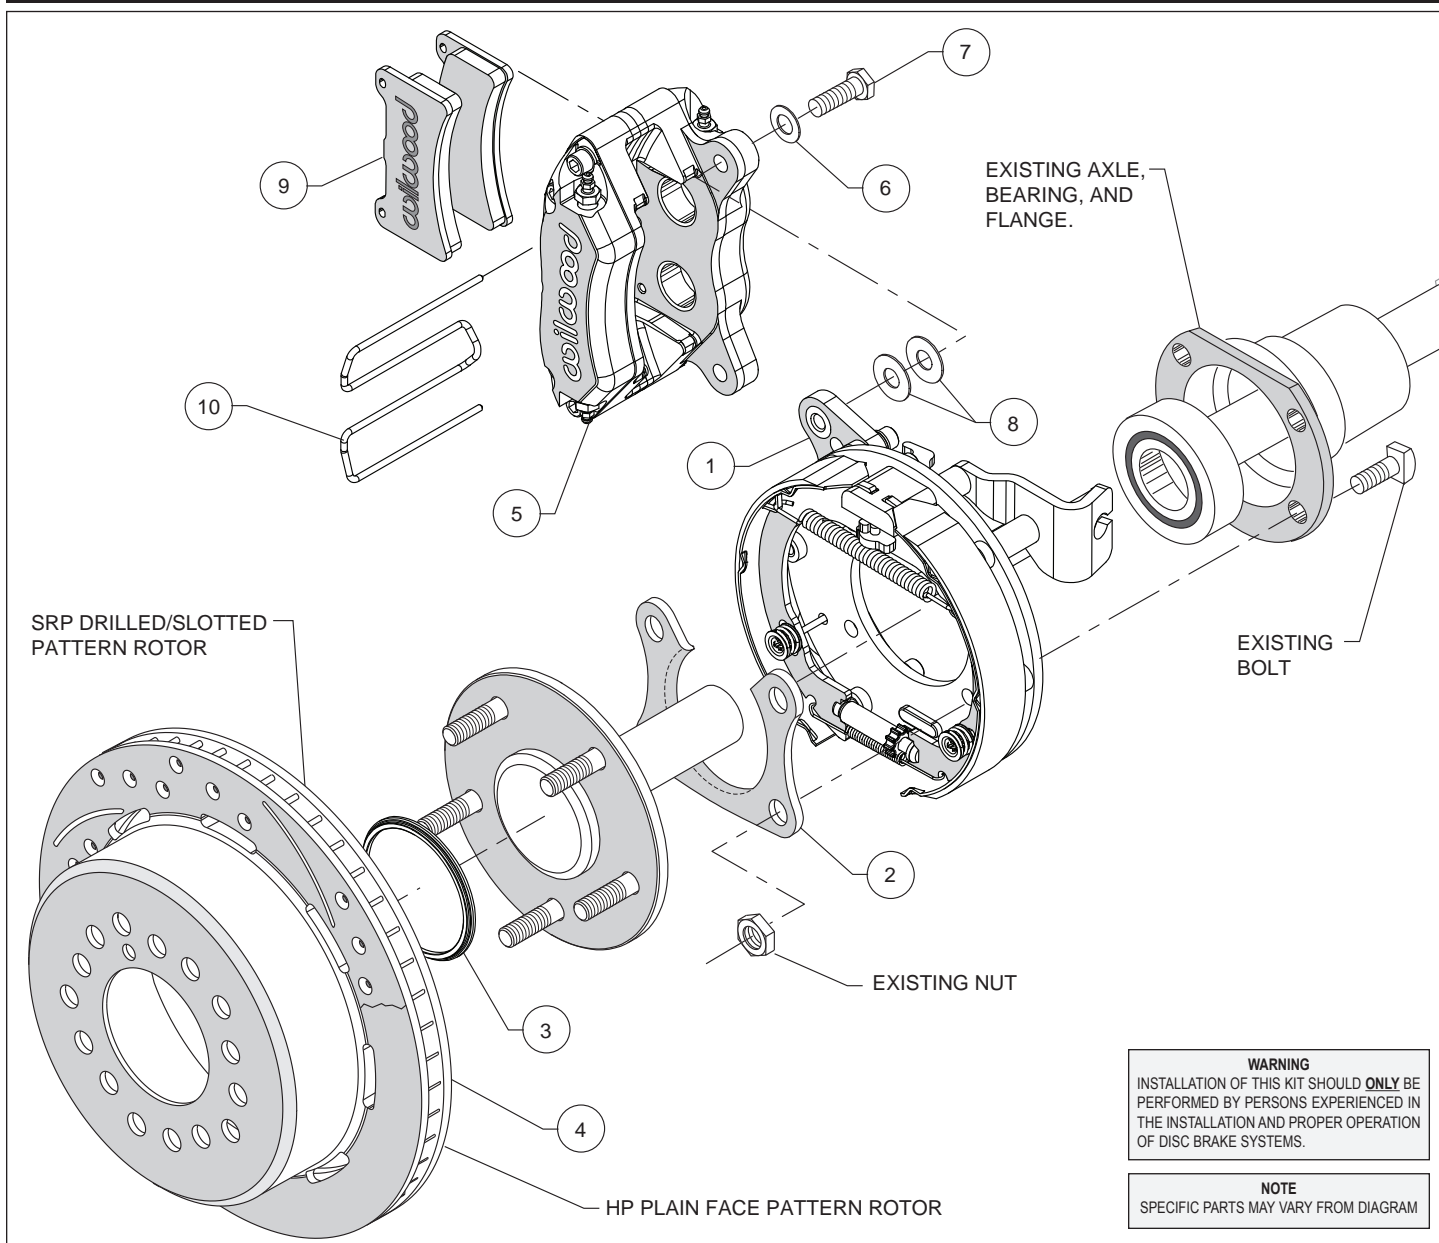
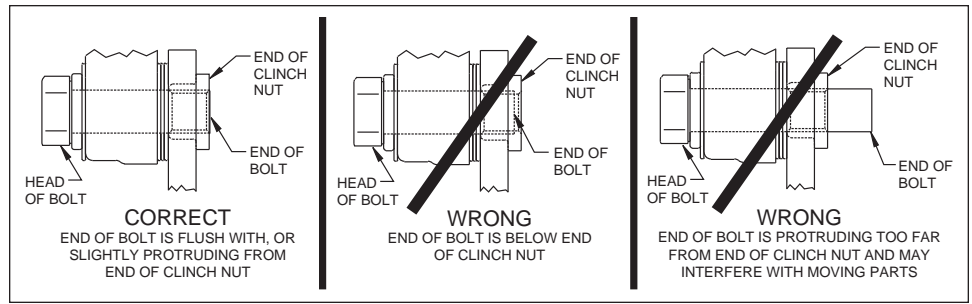

Figure 1. Typical Installation Configuration
Figure 5. Clinch Nut Engagement Diagram
Assembly Instructions (numbers in parenthesis refer to the parts list, and Figure 1 on the preceding pages): **CAUTION:** All mounting bolts must fully engage clinch nuts. Be sure to check that all bolts are either flush or protruding through flanged side of clinch nut after shimming, Figure 5.
- Orient the bracket assembly (1) as shown in Figure 1 and Photo 1 and slide it onto the axle. Insert the axle and bracket into the axle housing. Ensure that the bracket assembly backing plate fits flush against the axle housing flange.
- Install the bearing retainer (2) with the opening pointing upward and the lip facing inward (toward the bearing), as shown in Figures 1 and 4, and Photo 2. Secure retainer and bracket assembly to the axle housing flange using the Original Equipment Manufacturer (OEM) bolts and nuts, Figure 1. Apply red *Loctite*® 271 to the OEM bolt threads and torque to OEM specifications.
•Slide the rotor registration adapter (3) onto the axle register on the axle flange with the smaller O.D. facing toward the rotor/hat (4), Photo 3. Align the correct hole pattern in the rotor/hat with the stud pattern on the axle flange and slide into place, Figure 1 and Photo 4. **NOTE:** The rotor/hat must fit flush against the axle flange or excessive rotor run out may result. Install three lug nuts (finger tight) to keep the rotor/hat assembly in place while continuing with the installation. **NOTE:** Some OEM and after market axles come with stud sizes larger than 0.50" diameter. Verify stud size and have a qualified machine shop drill the bolt circle of the hat/rotor to the correct stud size, if necessary.
•**NOTE:** Please reference the caution statement at the beginning of the assembly instructions. Mount the caliper (5) onto the caliper mounting bracket (1) using bolts (7) and washers (6), as shown in Figure 1. Initially place two .035" thick shims (8) on each bolt between the caliper and the bracket, Photo 5. Temporarily tighten the mounting bolts and view the rotor (4) through the top opening of the caliper. The rotor should be centered in the caliper, Photo 6. If not, adjust by adding or subtracting shims between the bracket and the caliper. Always use the same amount of shims on each of the two mounting bolts. **NOTE:** The end of each bolt must be flush with or slightly protruding from the head of the clinch nut, as shown in Figure 5. If necessary place spare shims between washer (6) and caliper mounting ear to achieve the proper clinch nut engagement. Once the caliper alignment and clinch nut engagement are correct, remove the bolts one at a time, apply red Loctite® 271 to bolt threads, and torque to 40 ft-lb.